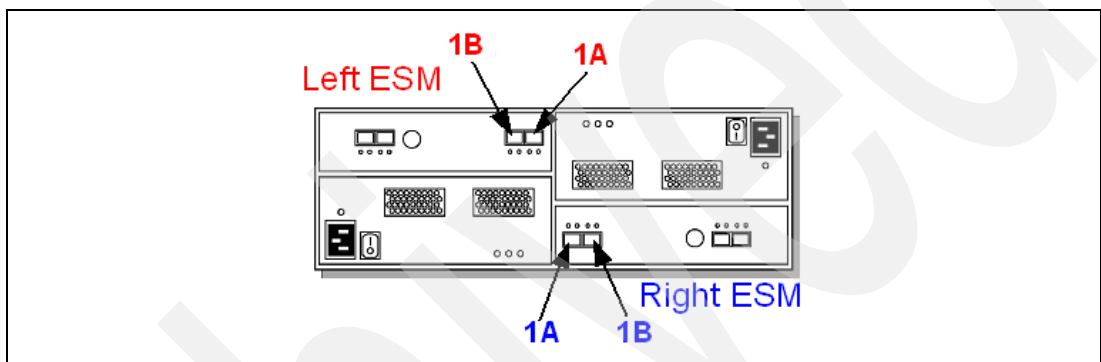

Figure 3-63 Port labels on EXP520 or EXP810
- ▶ The DS5020 controller drive port must always be connected to the EXP520 or EXP810 port labelled 1B. Because the left (ESM A) and right (ESM B) enclosure service modules (ESM) are inserted in different orientations, ensure that you use the port labeled 1B before making the Fibre Channel connection to the DS5020 storage subsystem, as shown in Figure 3-63.